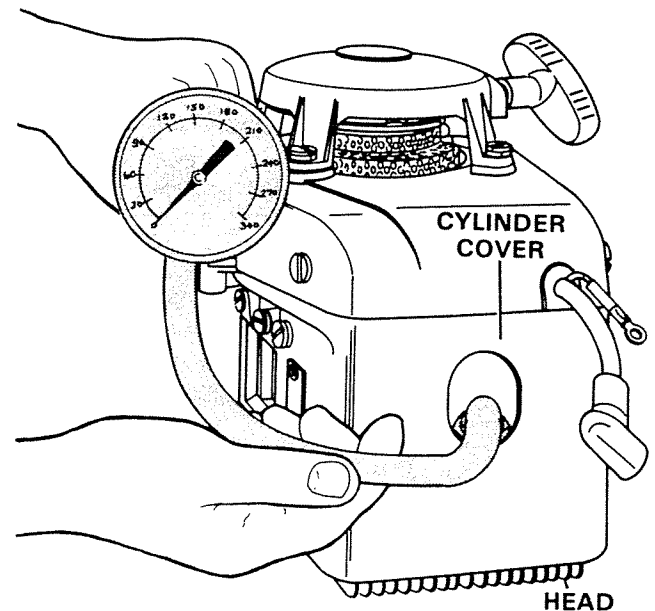

Figure 2. Compression Gauge Installed.
2. Insert tip of compression tester into spark plug hole of cylinder. Figure 2.